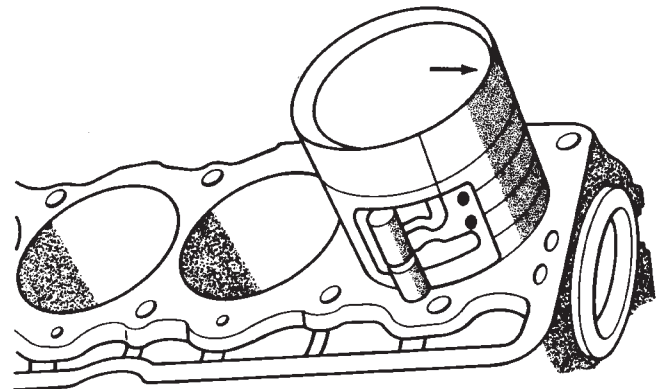

Fig. 16 Rod and Piston Assembly Installation
- (1) Wipe the oil from the connecting rod journal.
- (2) Use short rubber hose sections over rod bolts during installation.
- (3) Lubricate the upper bearing insert and install in connecting rod.
- (4) Use piston ring compressor to install the rod and piston assemblies. The oil squirt holes in the rods must face the camshaft. The arrow on the piston crown should point to the front of the engine (Fig. 16). Verify that the oil squirt holes in the rods face the camshaft and that the arrows on the pistons face the front of the engine.